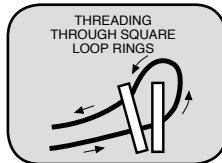

Fig. 2
4. Attach the straps underneath the seat using the square loop rings (Fig. 2). All straps should pass under the Drop Seat.